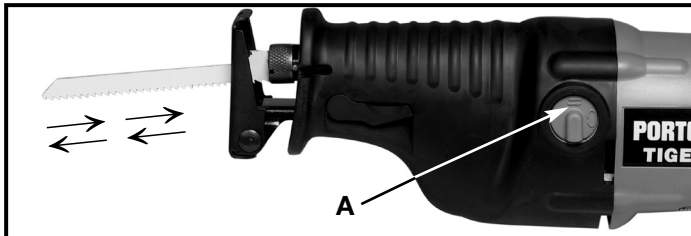
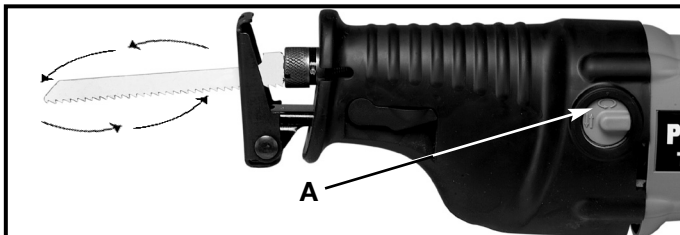

Fig. 10
Fig. 11
The **Model 747** has dual blade motion: you have a choice of straight reciprocating motion, as shown in Fig. 10, or orbital motion as shown in Fig. 11. Straight reciprocating motion should be used for all metal cutting operations, and for wood cutting applications where finish is more important than speed. Orbital motion is used for fast cutting of wood.
To set saw for straight reciprocating motion: rotate knob (A) Fig. 10, clockwise so that the bar is vertical (opposing arrow symbol up), as shown in Fig. 10.
To set saw for orbital motion: rotate knob (A) Fig. 11, counterclockwise so that the bar is horizontal (oval arrow symbol up), as shown in Fig. 11.
⚠ WARNING DO NOT USE THE TOOL IF KNOB (A) FIG. 10 & 11 IS BROKEN AS EXPOSED METAL PARTS MAY BE MADE LIVE IF THE BLADE CUTS INTO LIVE WIRING WITHIN A WALL.